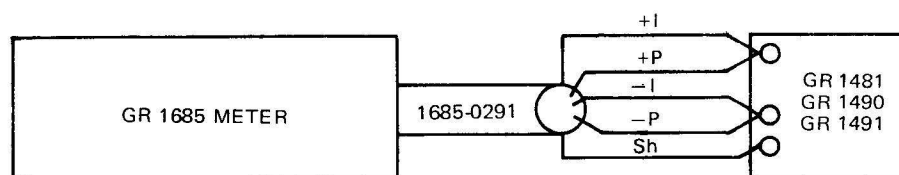

Figure 5-7. Inductance test setup.
- Connect a high Q 100-mH inductor (1481, 1490 or 1491 Decade Inductor) to the 1685 as shown in Figure 5-7.
- Connect the 100-mH high-Q inductor to the 1685, with 150 Ω in series with the -I-P leads as shown in Figure 5-7; the 1685 should indicate the same L value (± 0.3 mH) with and without the resistor.